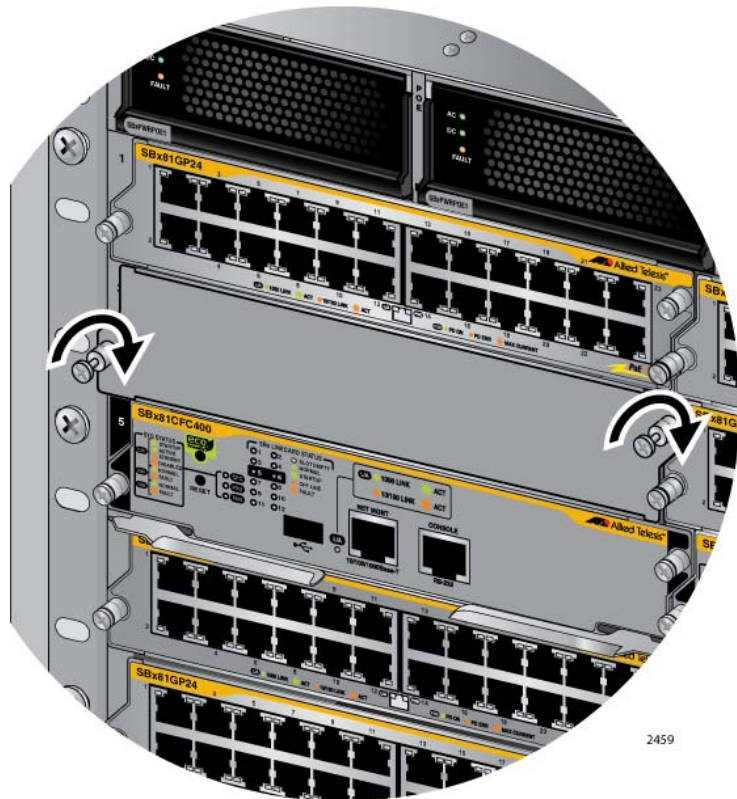

Figure 77. Tightening the Thumbscrews on a Blank Slot Cover
2. Finger tighten the two thumbscrews to attach the blank panel to the chassis, as shown in Figure 77 on page 121.